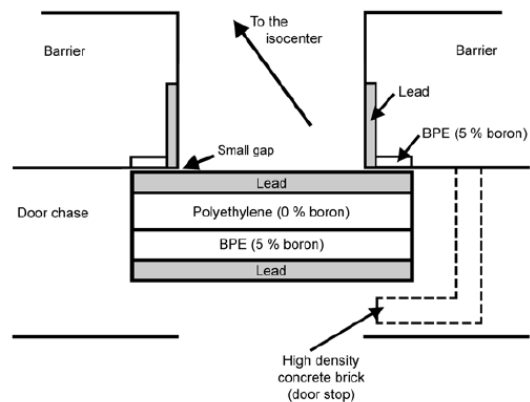

Fig. 2.11. Alternative to large overlap at door.
2. the other is to make a shielded doorstop as shown in Figure 2.11. the lead is placed in the linac room side for photon and the BPE is outside for neutron. The lead on the inside reduces the energy of the neutrons by inelastic scattering and this makes the BPE more effective.